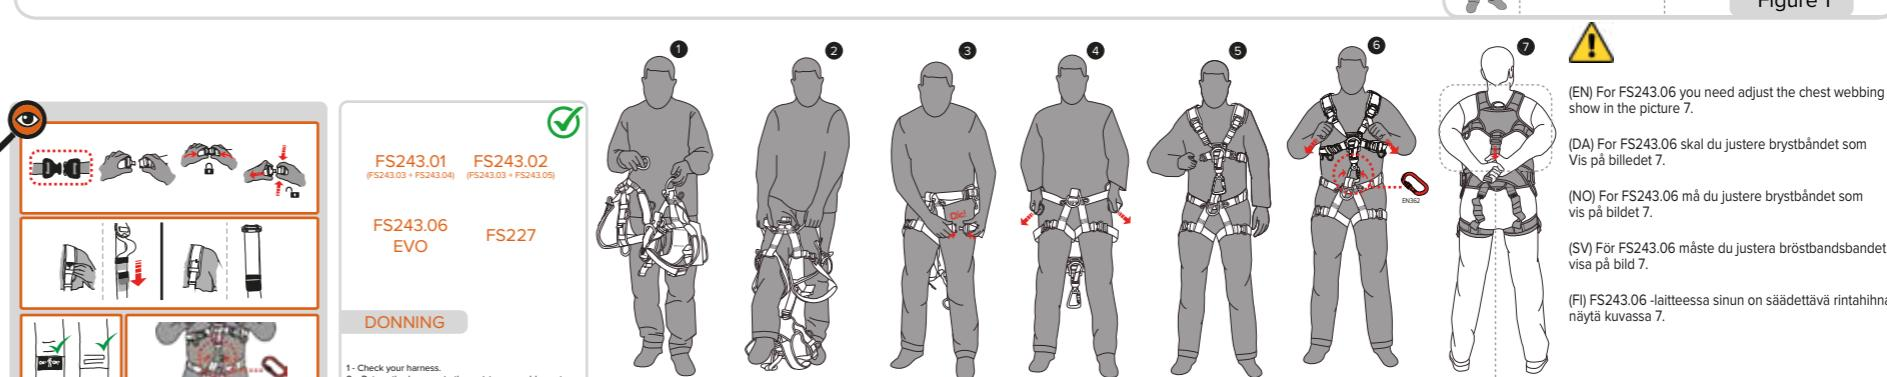

Figure 1
Before using the Personal Protection Equipment (PPE) you must read carefully and understand the safety information described on general instruction and the specific equipment instructions. ATTENTION!! If you have any doubt about the product, if you need others language version of the instructions for use, declarations of conformity or any question about the PPE, please contact us: www.fallsafe-online.com. WARNING: The manufacturer and the seller decline any responsibility in case of incorrect use, improper application or modifications/ reparations by persons not authorized by FALL SAFE®. The full body harness is the only acceptable body retaining device that can be used in a fall arrest system. The fall arrest harness should only be used as personal fall arrest system in accordance with EN363, as fall arrest system, restraint system, works positioning system, rescue system with the following tested and approved components: height safety devices in accordance with EN360; travelling fall arrest devices on moveable guides in accordance with EN353-2; lanyards with strap fall brakes in accordance with EN354/EN1496; lanyard in accordance with EN354; Karabiners in accordance with EN362. The anchorage point on which the protective equipment is fastened should be located above the user if possible and must satisfy the requirements specified in EN795 (minimum strength of 12kN). The dorsal and chest D-rings ("A" points) must be connected to a fall arrest system that meets current standards. Use only "A" attachment point for fall arrest system connection, for example a mobile fall arrest, an energy absorber. In a fall event, the fall arrest attachment point elongates approximately 0.5 m. This elongation must be taken into account for the clearance calculation. When is available, the ventral and the side attachment points on the work belt are designed to either hold the user in work position, or to restrain the user from entering a hazard zone. ATTENTION: The side attachment point is not designed for fall arrest usage. Always use the two side attachment points together, by linking them with a work positioning lanyard, in order to be comfortable supported by the comfort pad of the work belt. WARNING: Be sure the webbing is inserted in the correct position. ATTENTION: Prolonged suspension in case of a fall can cause suspension trauma that may lead to serious injuries or death! Please avoid suspension trauma! The rescue harness is intended to be worn during normal working activities and that you should carry out a suspension test in a safe place before using the rescue harness for the first time, to ensure that it is the correct size, has sufficient adjustment and is of an acceptable comfort level for the intended use. WARNING: The rescue harness, FS236 - maximum load 100 kg, shall not be used as the body holding device in a fall arrest system. WARNING: the waist belt is not suitable for fall arrest purposes and that a waist belt should not be used if there is a foreseeable risk of the user becoming suspended or being exposed to unintended tension by waist belt. Warning: using a work positioning system it is essential to consider the need of using a back-up, e.g. a fall arrest system. WARNING: for work positioning it is essential for safety use an anchor point positioned at above waist level. ATTENTION: The waist belt is approved for a user, including tools and equipment, with a weight of up to 150 kg. For adjust the work positioning lanyards you must attach the connector of the end of the lanyards to the positioning side D-ring of your harness. Pass the rope through a reliable anchor point EN795. Attach the connector on the other lanyard end to the positioning D-ring. You can attach the positioning lanyard to a ring anchor point. WARNING: The rope must be taut to prevent accidents. Never connect the lanyards directly to a structure (cable, bar, etc.) having a slope greater than 15° because the fall length may then exceed 0.6m. WARNING: Karabiners must always be used with the gate closed and locked. Systematically verify that the gate is securely locked by pressing it with your hand. Avoid contact with sharp or abrasive surfaces and objects. According to EN358, please note it is essential to regularly check fastening and adjustment elements during use. ATTENTION: Waist belt is approved for a user, including tools and equipment with a weight of up to 150 kg. In accordance with EN313, it is essential to check fastening and adjustment elements regularly, as well as essential to check the sit harness regularly for any damage. ATTENTION: a sit harness is not suitable for fall arrest purposes. Attachment points of the sit harness (figure 1) can be used for restriction or work positioning. For work positioning (I), attach the work positioning lanyard connector to the work positioning ring on the sit harness, pass the rope through a safe spot; make sure that the lanyard is taut and attach to the other side ring. For restriction (2), attach the connector on the other lanyard extremity to the positioning D-ring and attach the non-latching lanyard to a fixed anchor point.